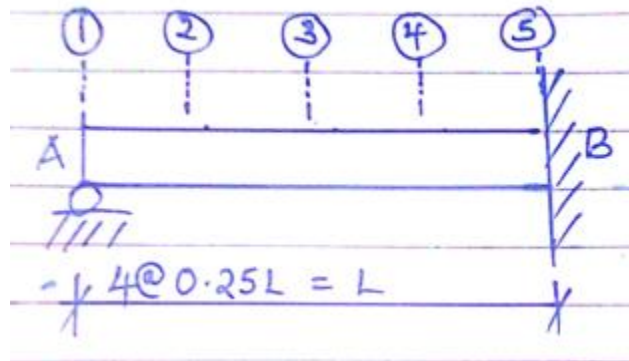

Figure Q4
**Figure Q4** below shows an indeterminate beam simply supported at A and fixed at B. Using moment distribution;